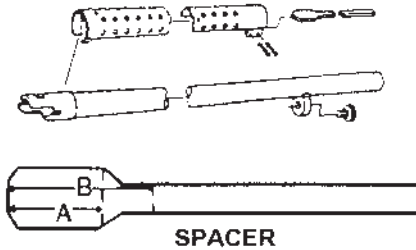

Fig. 17
- 5) Position the appropriate length plastic spacer or optional bushing style spacers between the forward clamp. Insert the two screws and start the two hex nuts on the screws using a 7/64" hex key wrench and a 5/16" open end or box wrench. **DO NOT FULLY TIGHTEN THE TWO SCREWS YET** (Fig. 17).